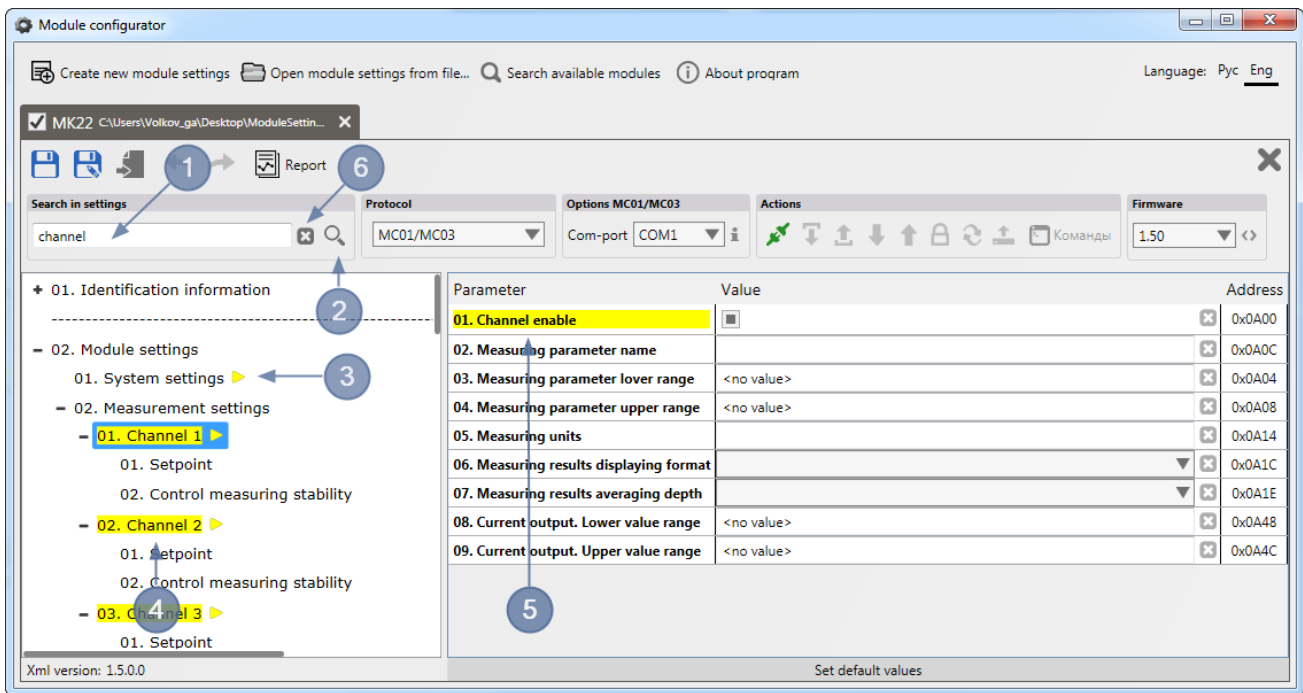

Figure 22 - Parameters search procedures
To find necessary parameter or parameter group by name or address, enter parameter or parameter group name or address in search field (Figure 22, item 1) and press Enter button, or press search button (Figure 22, item 2).
If found parameter is in parameter group, then yellow triangle will appear near group name (Figure 22, item 3). If a match is found in parameter group name, it will be highlighted with yellow color (Figure 22, item 4). Names of found parameters are highlighted with yellow color (Figure 22, item 5).
To reset search use keyboard to press Escape button or press **Reset** button (Figure 22, item 6).